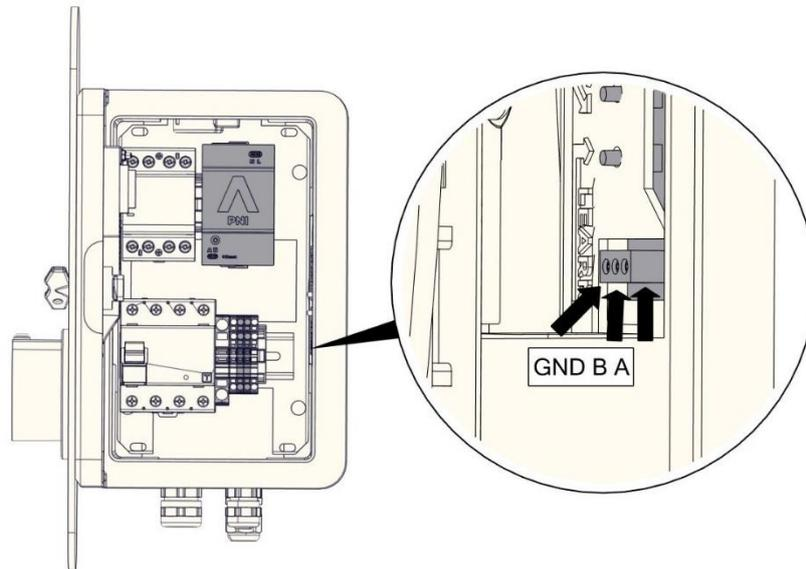

Figure 3 Modbus terminal on RFID module
The Modbus is wired by clamping the white Modbus wire (item 7 in the parts list) from the PNI socket A to the RFID module socket A and the red Modbus wire from B (PNI) to B (RFID). The **RFID module** is magnetically attached to the mounting plate and can be removed for wiring (see Figure 3).